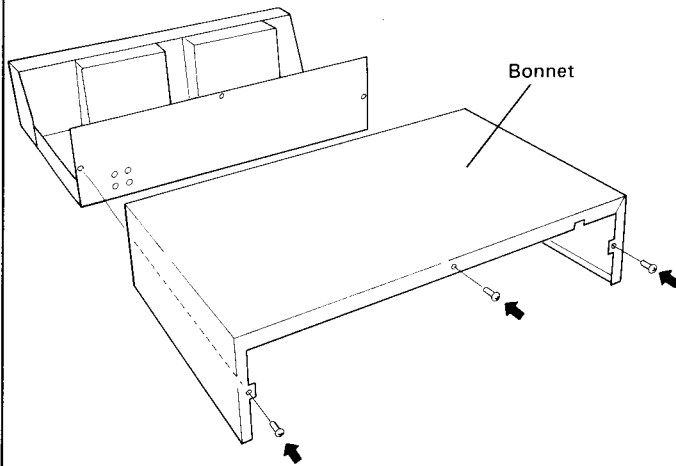

Fig. 3-1
1. Remove the bonnet. (Refer to Fig. 3-1)